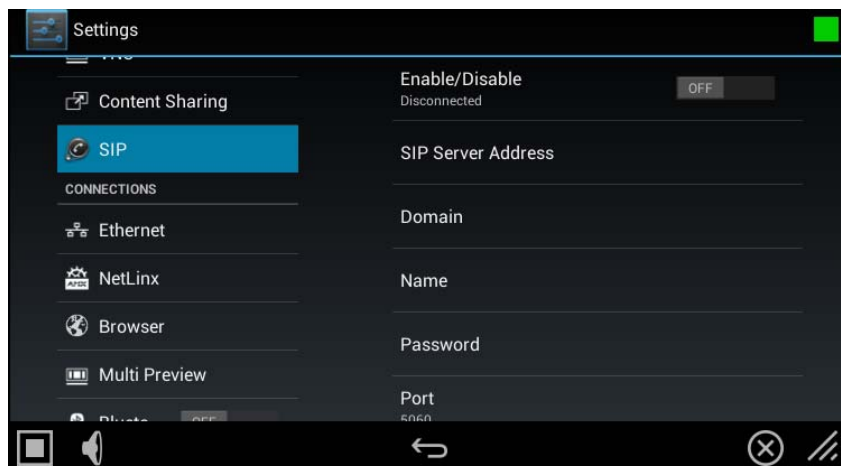

FIG. 49 SIP page
The SIP page (FIG. 49) controls the configuration of settings for SIP communication with the panel.
1. In the *SIP Options* page (FIG. 49), press **SIP Server Address** to enter the IP address of the SIP Server in the *SIP Server Address* window. Press **OK** to save changes and close the *SIP Server Address* window.